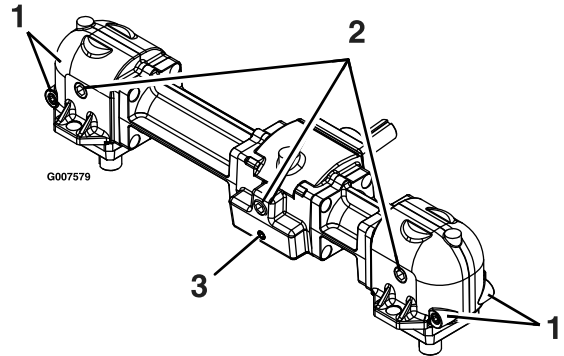

Figure 30
6. Remove the large oil drain plug on the front of each of the 3 gearbox sections and drain the oil (Figure 30).